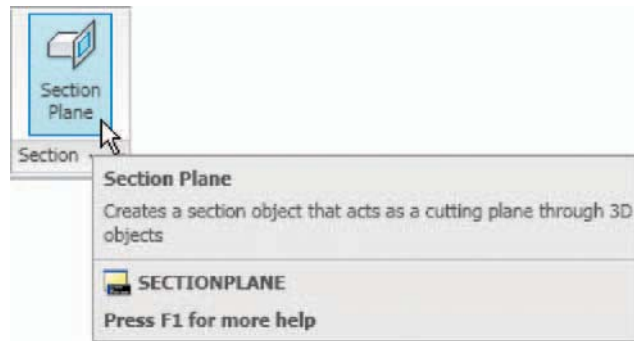

Fig. 14.26 Example – **Section Plane** tool in the **Home/Section** panel
5. Click the **Section Plane** tool icon in the **Home/Section** panel (Fig. 14.26).